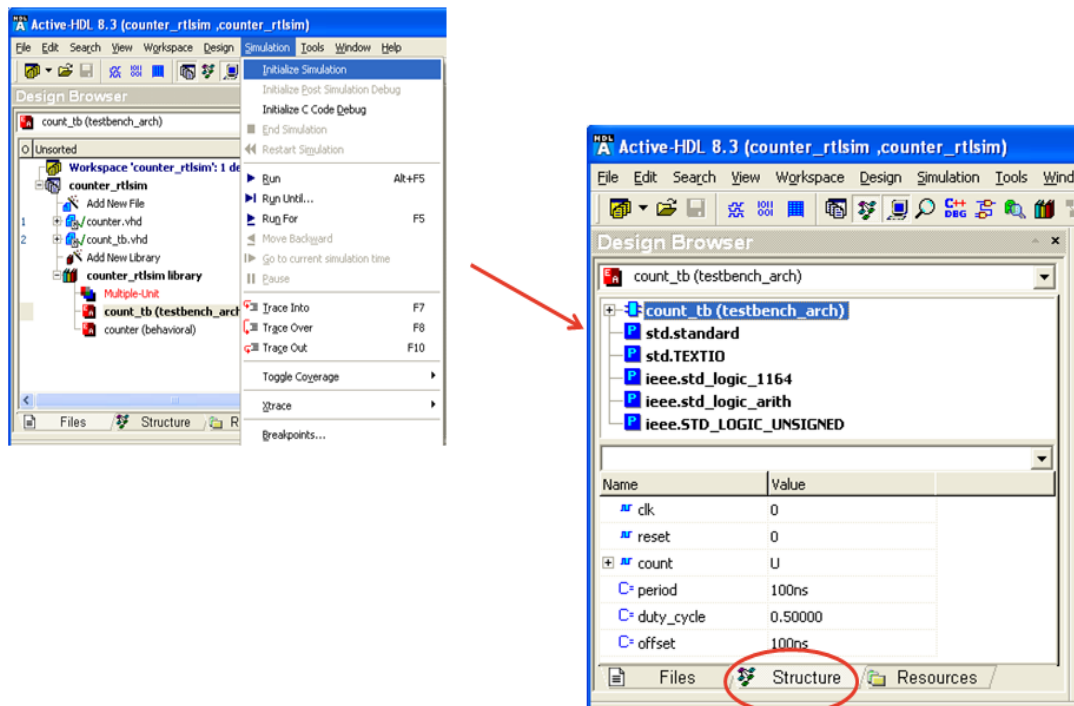

Figure 10-10 : Initialize Simulation.
- Click on Simulation > Initialize Simulation. After Initialization, the “Design Browser” view will be changed from “file” view to “Structure” view as shown in Figure 10-10.